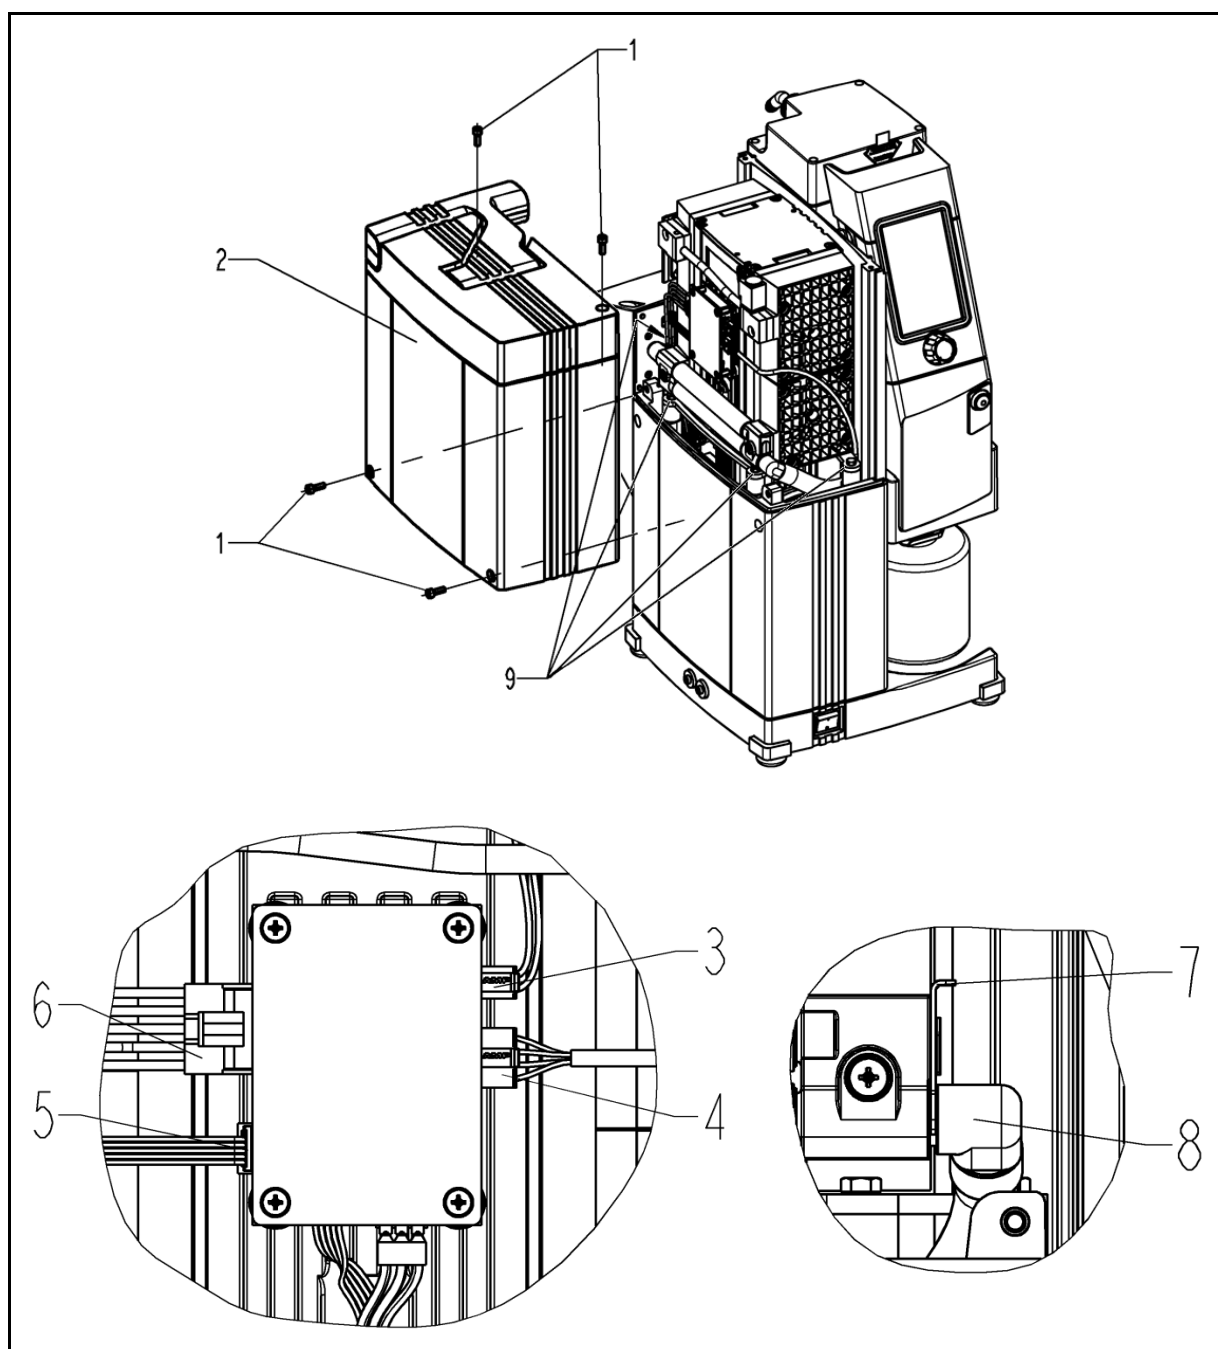

Fig. 18: Accessing the pump in the SCC 950 vacuum pump system
1. Loosen the four attachments screws (Fig. 18/1) and remove the grip assembly (2).
- i** Before assembling the head connections, make sure that the two front attachment screws (Fig. 18/9) are inserted into the foot plate. This is required in order to later re-fasten the pump in the vacuum pump system.
1. Place the pump back into the vacuum pump system and tighten the four attachment screws (Fig. 18/9) hand tight.